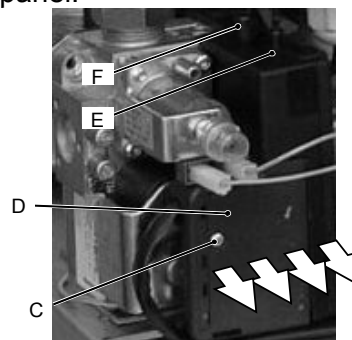

Figure 2
- 2) Unscrew the screw C and remove protection cover D of the connection; disconnect flame detection cable E and ignition cable F (Figure 2).
4) Pull the ignition device out, pulling it frontally (follow the arrows on Figure 2).